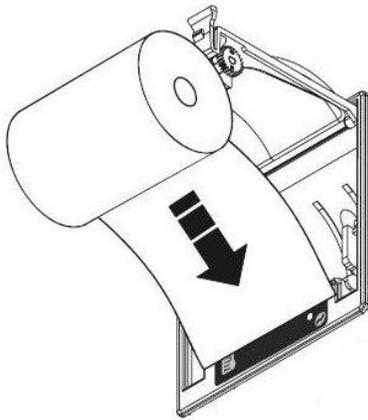

Figure 7-4 – Changing the paper roll - Step 2
2. Position the paper roll making sure it unrolls in the proper direction as shown in Fig. 7-4